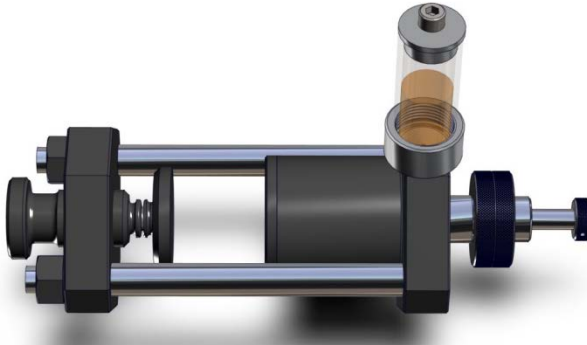

Figure 5.4.2
2. Gently lift the stem of the dial indicator on the Green Deformation Accessory (Figure 5.4.1) and place the sand specimen between the base and foot of the dial indicator (see Figure 5.4.2). Carefully, lower the stem of the dial indicator until its foot reaches the top surface of the sand specimen.
3. Rotate the bezel of the dial indicator aligning the zero mark of the scale with the needle of the dial indicator (Figure 5.4.2).
8. Read change in sand specimen length directly on the scale of the dial (see Figure 5.4.2).